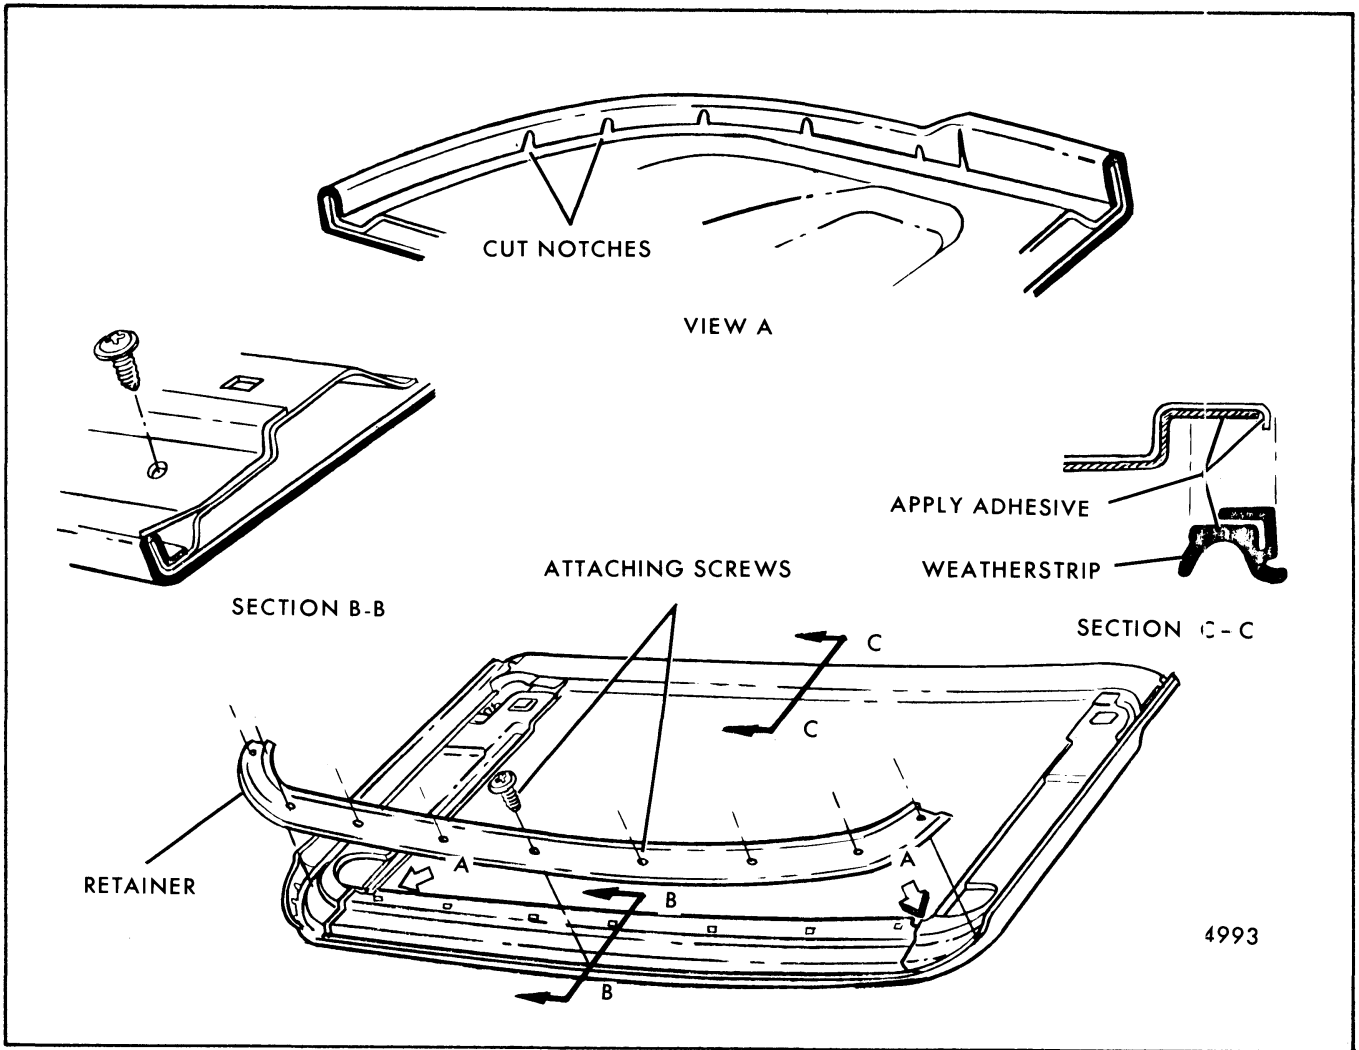

Fig. 8-27-Fabric Roof Cover Installation on Sliding Sunroof Panel
1. Remove the following prior to removing fabric cover from sliding sunroof panel (see Fig. 8-27).
12. Apply adhesive to weatherstrip and contacting surface at rear of panel, then install weatherstrip and retainer (Fig. 8-27).